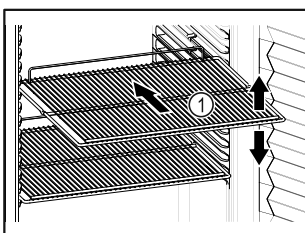

Fig. 88 Example illustration
- ❑ If there are adjustable shelves Fig. 88 (1), position them as required.